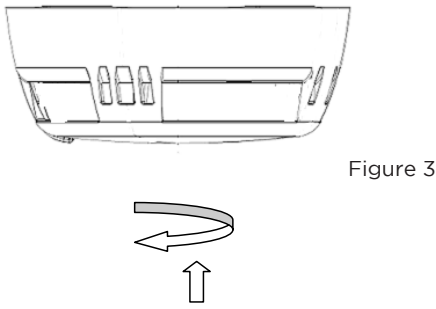

Figure 3
4. Continue to rotate a few degrees until the ONEDETECTOR2X_AP has fully engaged in the ONEBASE. (fig3)